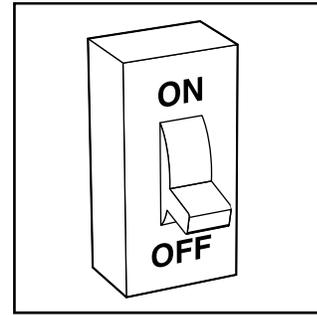

Fig. 19 - Turn Off Electrical Supply
2. Turn off electrical supply to the furnace. (See Fig. 19.)
1. Turn off electrical supply to furnace. (See Fig. 19.)